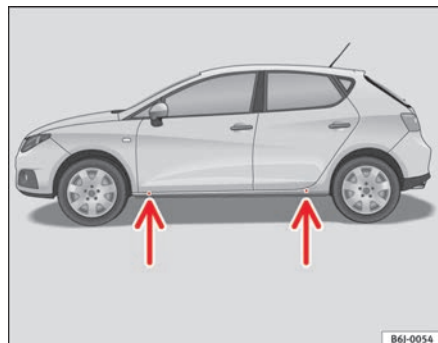

Fig. 127 The jacking points
- Locate the jacking point under the door sill closest to the wheel to be changed ⇒ **fig. 127**.
Recesses at the front and rear of the door sills mark the jacking points ⇒ **fig. 127**. There is only one jacking point for each wheel. Do not fit the jack anywhere else.